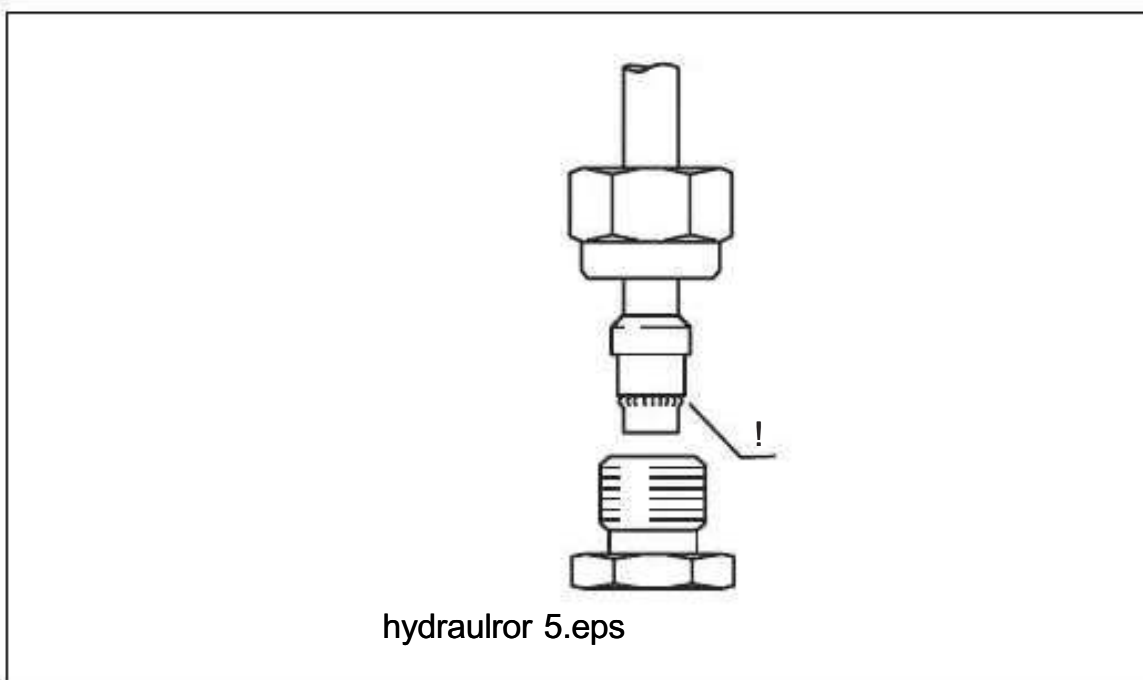

**Figure 8.20** A visible swelling should have formed after tightening
6. After fitting, release the cap nut and check that the ring has pressed up a visible swelling in the area in front of it, see figure 8.20. If not, give it another short turn. It is of no importance whether the ring can still be turned.